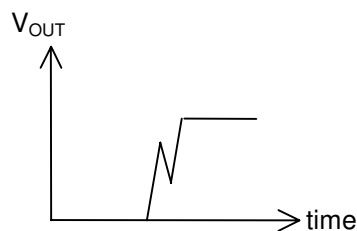

Figure 16
**Caution 1.** When the CD pin is open, a double pulse shown in Figure 16 may appear at release. To avoid the double pulse, attach 20 pF or larger capacitor to the CD pin. Do not apply voltage to the CD pin.